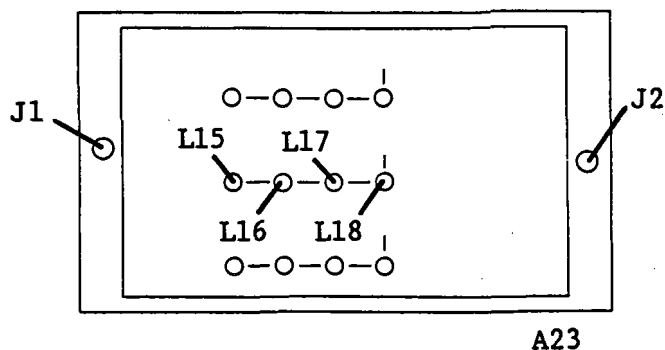

Figure 3-60. 340-500 MHz Voltage Tuned BPF Adjustment Locations
9. Connect the equipment as shown in Figure 3-54. See Figure 3-60 for A23J1 and J2 locations.